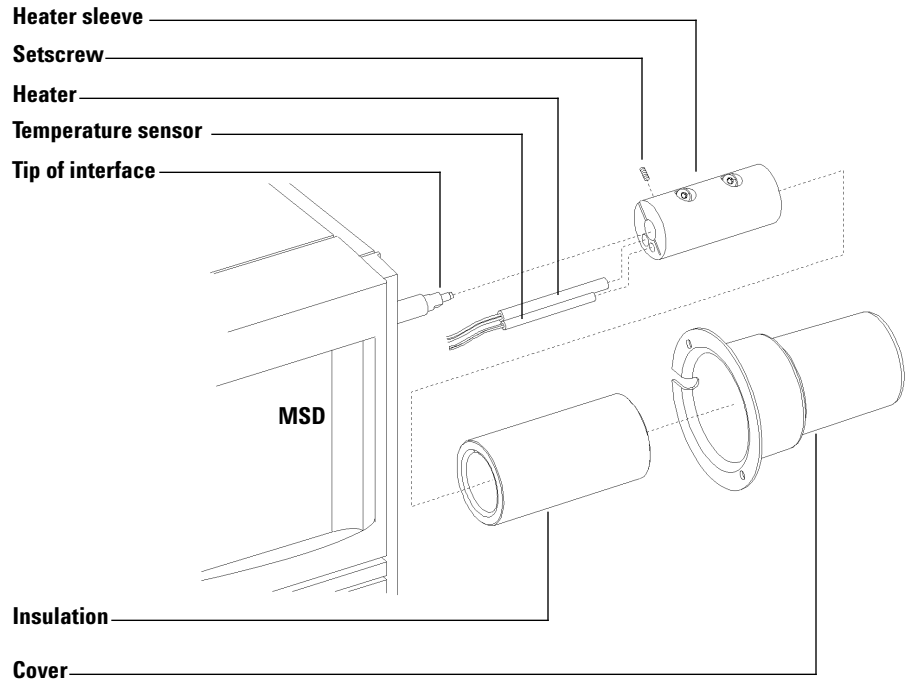

Figure 23 Replacing the GC/MSD interface heater and sensor
Rarely, the heater cartridge in the GC/MSD interface fails. In those cases, it is necessary to replace the heater and sensor. This section contains procedures for removing the heater and sensor and installing new ones. See Figure 23.
- 5 Slide the insulation off of the GC/MSD interface (Figure 23).
- 1 Slide the new heater and temperature sensor into the heater sleeve (Figure 23).